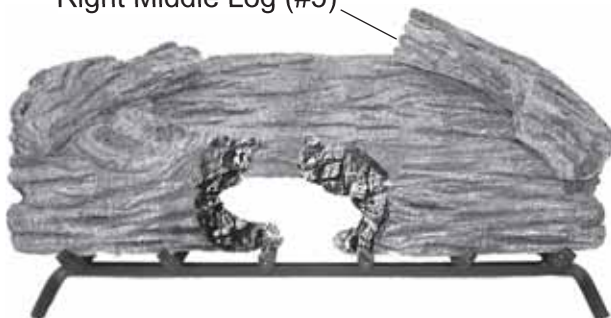

Figure 31 - Installing Right Middle Log (#5)
6. Install right middle log #5 as shown. *See Figure 31.*